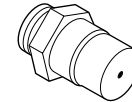

Figure 28
Step 8. Unscrew the orifice from the manifold and replace it with the one provided with the kit, #37 (0.104) for natural gas units and (0.065) for propane (**see Figure 28**).